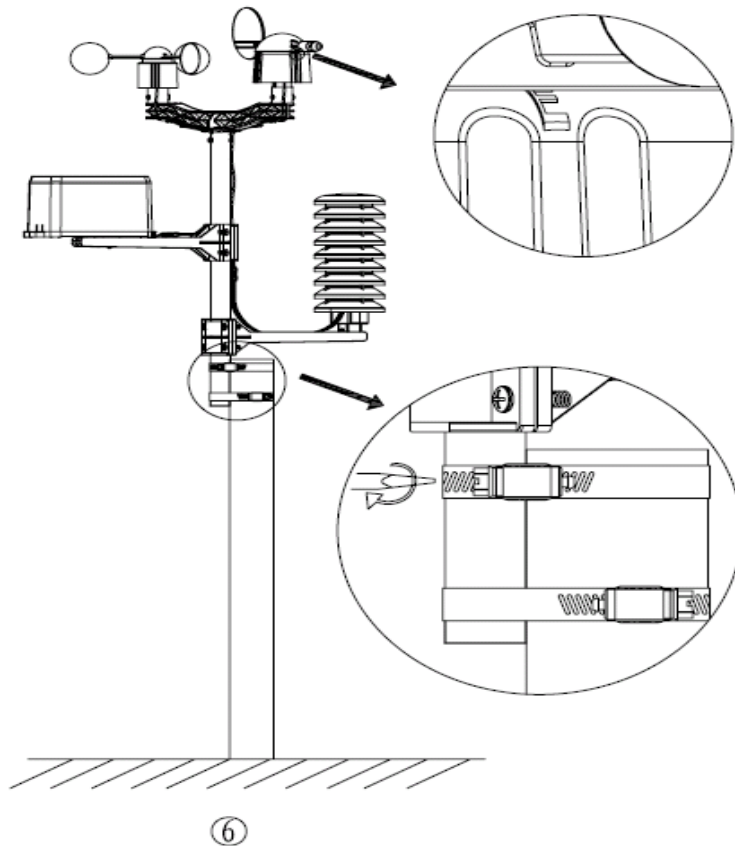

Figure 6
6. Fasten the lower mounting pole (which is swaged on the top end) to your mounting pole or bracket (purchased separately) with the hose clamps. Tighten the lower mounting pole to your mounting pole with the hose clamps with a flat head screw driver, as shown in Figure 6. Slide the top weather station pole (with the sensor array) into the lower pole (connected to your mounting pole) when your station is finally mounted.
Note the four channels on the side of the wind vane. Each quadrant is labeled North, South, East and West (reference Figure 6 as an example for “E” or East). Locate the North direction (“N”) and mark it with a piece of tape for future reference. You will need this for wind direction calibration upon final assembly.